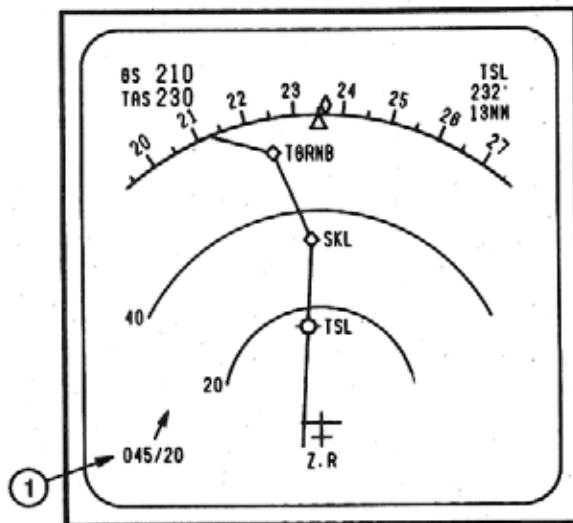
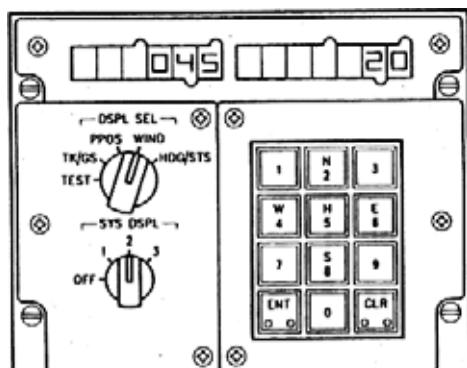

Figure 2-104
Figure 2-105
Proper format for these entries may be found in APPENDIX B, pages B-10 and B-11. Basically, if wind alone is input, the value must be preceded by a slash /. PPOS wind values are available on the ND (1), Figure 2-104), and the ISDU (2), Figure 2-105). (See Section 3.1.3.5.4, WIND/TEMPERATURE ENTRY, page 3-64.)